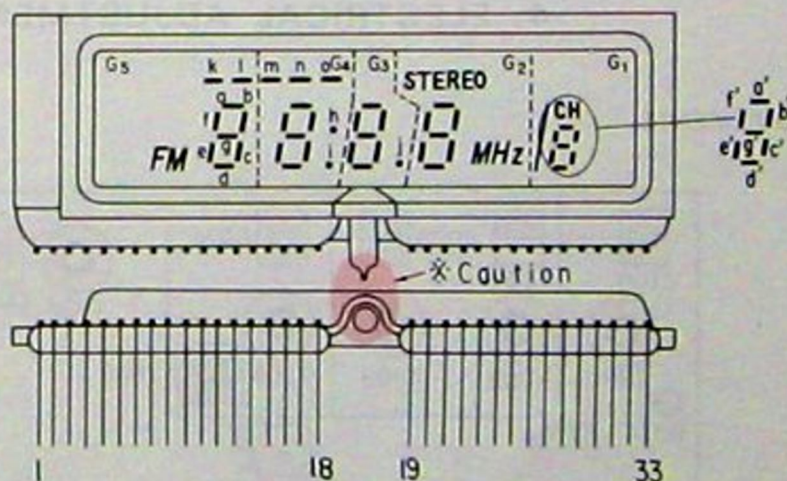

Figure 16.
- Be careful not to break the part marked * in figure 16 when drawing out the Tube, Display Assembly from the Cabinet since it is very fragile.